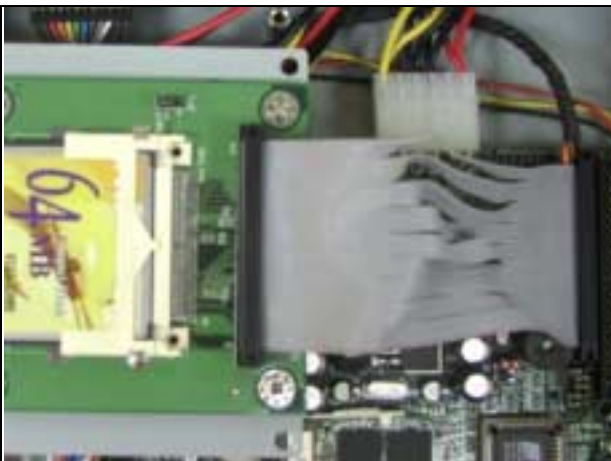

Fig. 2-21 Connect IDE cable to CF
2. Connect the IDE cable to CF (**Fig. 2-21**).